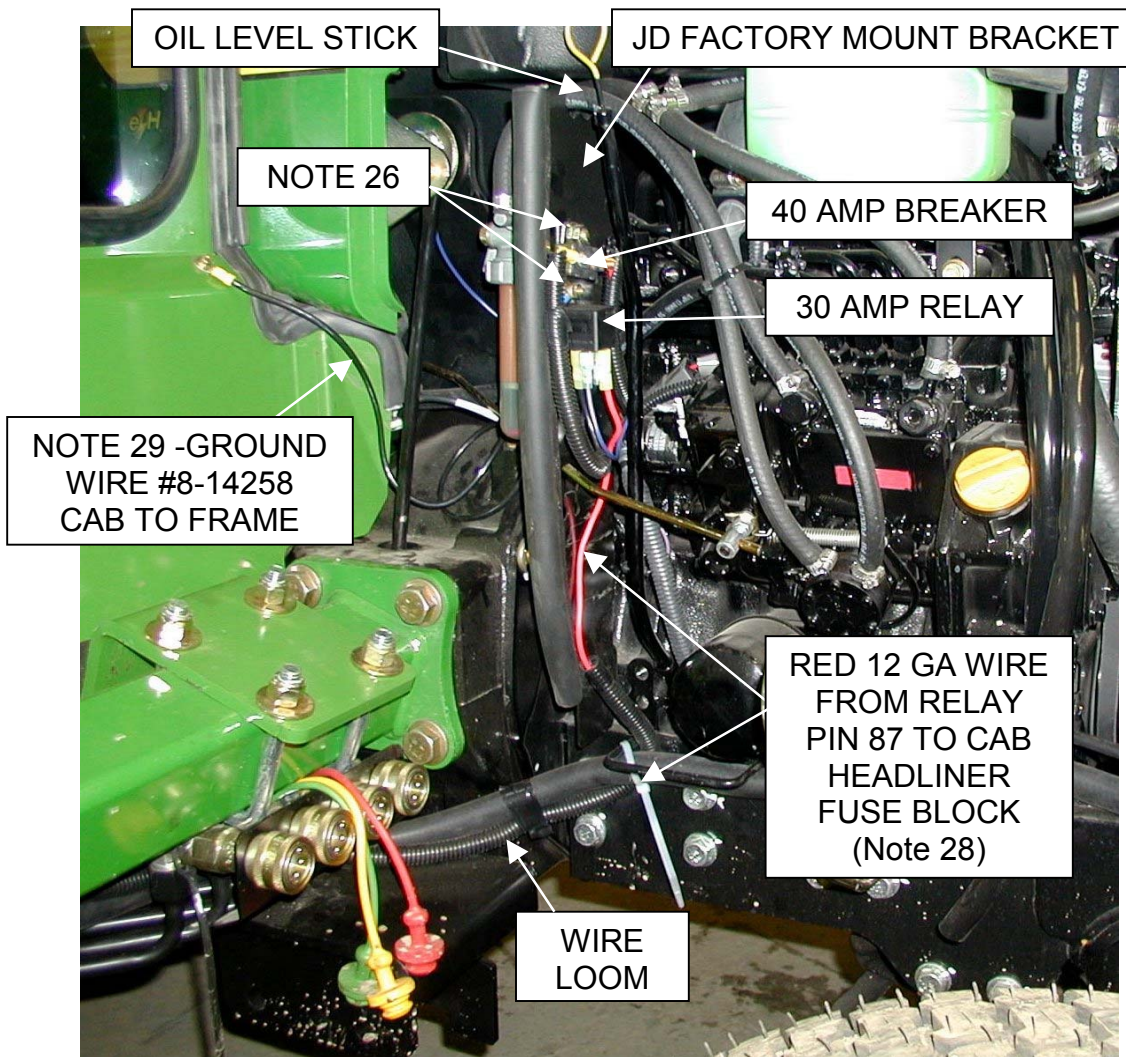

FIGURE 25
- 25) Locate the wire relay breaker harness #3-17803 that comes with the mount kit. Review Figure 25 for proper location and mounting.
- 26) If holes are not present, drill two ¼" holes. Use the (2) #10 x 5/8" machine screws, washers and nuts, from the wire relay breaker harness to attach these components.